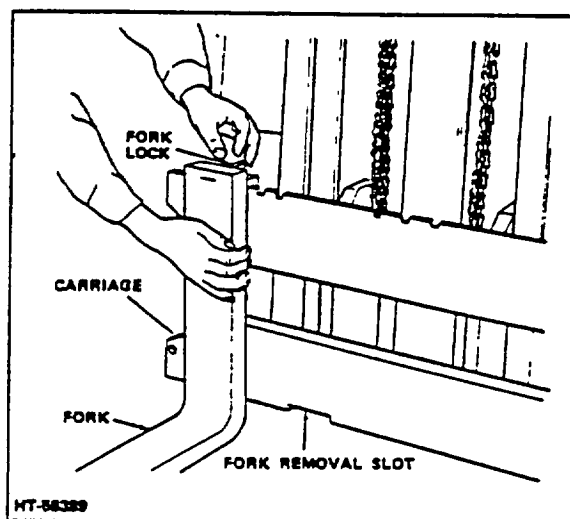

Figure 10. Fork Adjustment and Removal
A fork lock (Fig 10), is installed in the top of each of the hook type forks to hold it in position in one of the notches along the top bar of the carriage. To change the fork location, pull up on the lock and move fork to the left or right. Allow fork lock to seat in the notch nearest to location chosen.
The forks can be easily removed from the carriage by releasing the locks and aligning each fork with the wide removal slot (see Fig 10), at the bottom of the fork carriage. (Refer to following REMOVAL procedures for detailed instructions.)
2. Release the fork lock pin and slide fork to a position over the cut-out in the lower carriage bar. (Fig 10.)